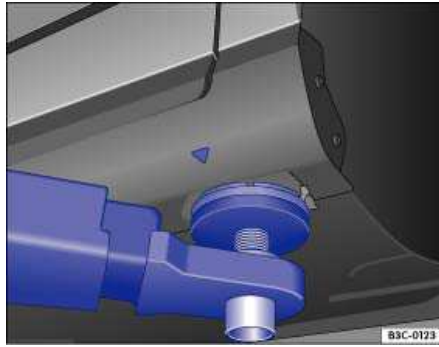
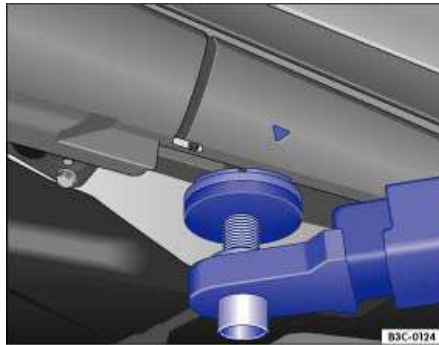

Fig. 325 Front lift point for workshop hoist or floor jack.
Fig. 326 Rear lift point for workshop hoist or floor jack.
The vehicle may only be raised at the lift points shown in illustrations and ⇒ fig. 326. If the vehicle is lifted at different points, vehicle damage ⇒ ⚠ and serious injuries may occur ⇒ ⚠.
- Always lift your vehicle only at the designated lift points shown in the illustrations ⇒ fig. 325 and ⇒ fig. 326. Not using the designated lift points can cause the vehicle to fall off the floor jack when heavy parts such as the engine or transmission are removed.